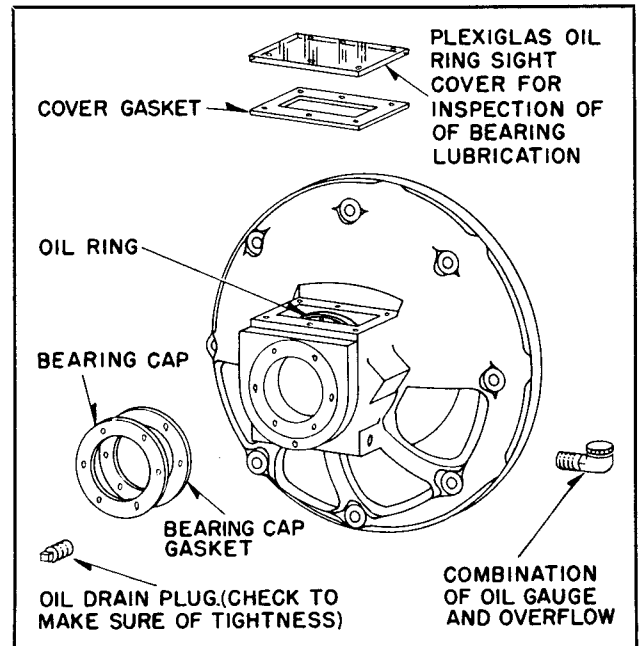

FIG. 6. Detail of Sleeve Bearing Bracket
Lubrication. Before starting the motor, fill both oil reservoirs through the combination overflow gauge and filling device with best quality clean dynamo oil. (See Fig. 6). The oil used should have a viscosity of from 180 to 220 SSU equivalent to SAE #10. No oil should be poured in the top of the brackets through the oil ring slot cover of the bracket.
1. Drain oil by removing drain plugs from bearing housing. See Fig. 6.